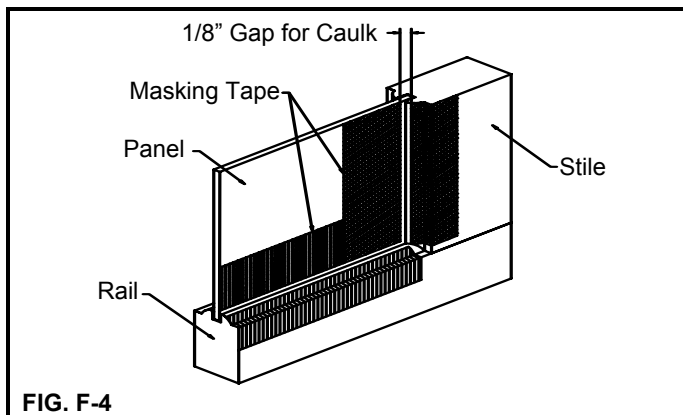

FIG. F-4
- To avoid an uneven caulk line that could affect the appearance of the wood surrounding the panel joints, apply masking tape to both the panel and the stile or rail along the entire joint prior to caulking, leaving a gap of 1/8". Caulk along the joint, pressing the caulk into the joint and smoothing with finger. After entire bead is applied, remove tape. (Fig. F-4)